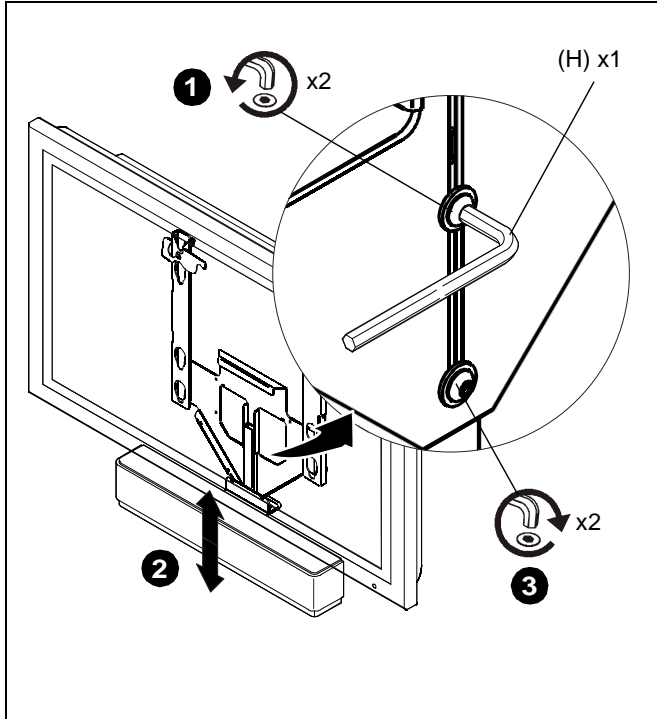

Figure 6
1. Loosen two button head cap screws securing speaker mounting bracket to support plate using 1/8" hex wrench (H). (See Figure 6)
3. Tighten two button head cap screws securing speaker mounting bracket to support plate using 1/8" hex wrench (H). (See Figure 6)